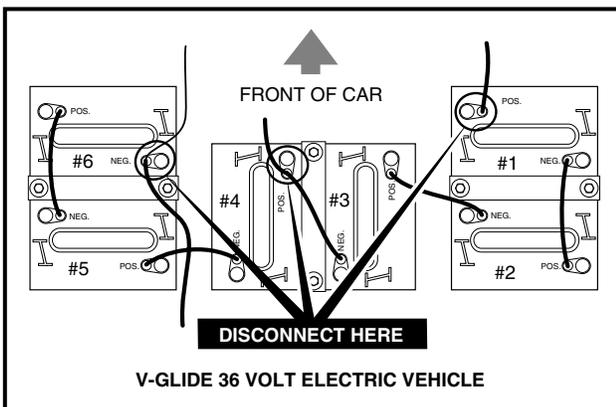

FIGURE 1
- **FOR ELECTRIC VEHICLE BATTERY DISCONNECT, SEE FIGURES 1 AND 2.**